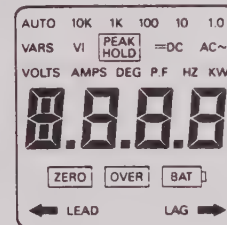

Fig. 1
3. ON/OFF SWITCH: Slide the power switch to the ON position. Initially, the display will appear as in Fig. 1.